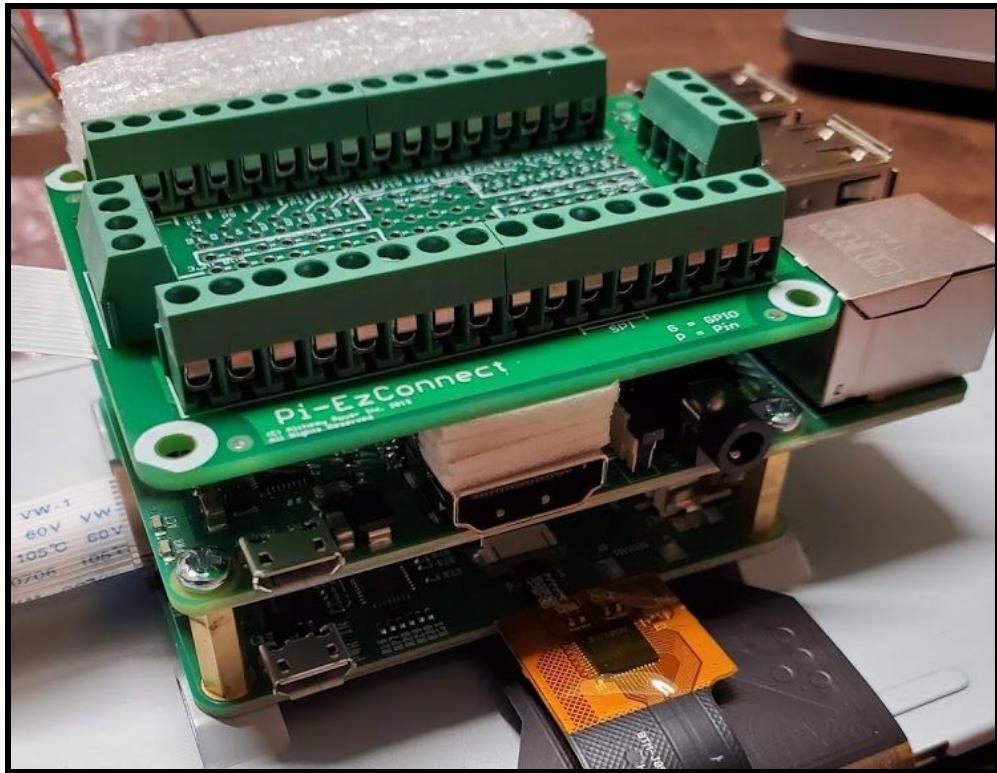

Figure 11.3 The display driver board, Raspberry Pi, and Screw Terminal HAT. Note that the tape (white) supports the Screw Terminal HAT.
11.3) Affix the driver board to the central holes in the screen with the spacers. Line up the holes in the board with the holes in the screen and place the spacer in the gap between them and use screws to secure the board. See Figure 11.3 for how the entire board setup looks, minus the ADC HAT.